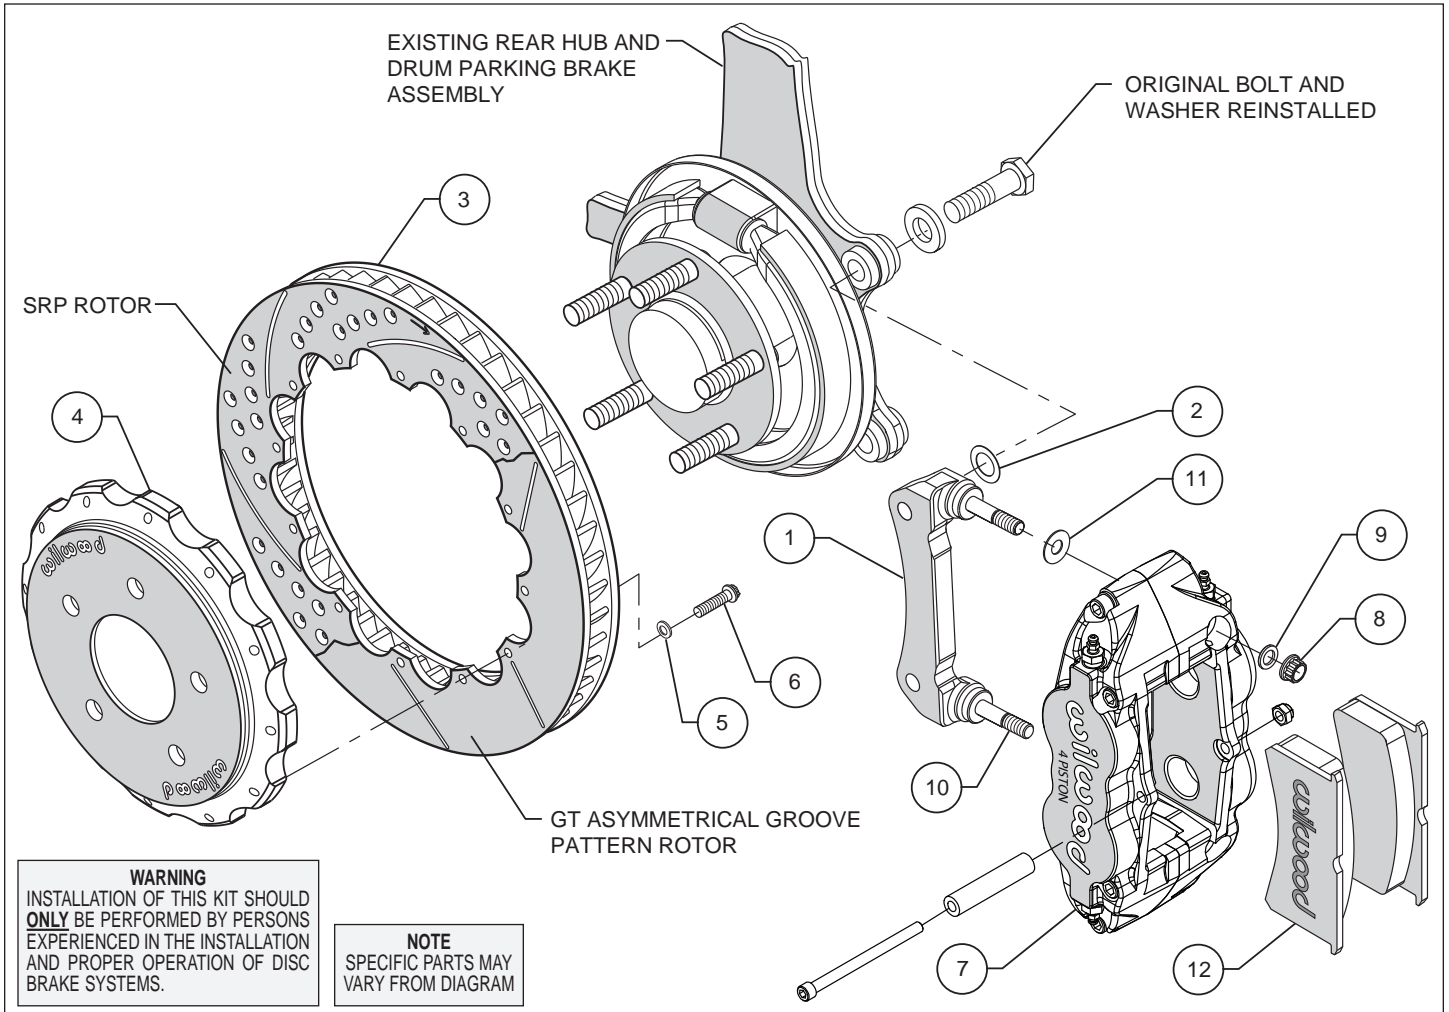
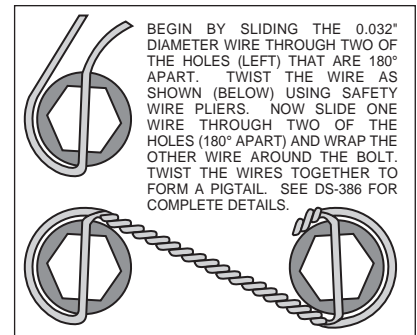

Figure 1. Typical Installation Configuration
Figure 3. Safety Wire Diagram
- Assemble the rotor (3) to the hat (4) with the bolts (6) and washers (5) as indicated in the configuration pictured in Figure 1. Using an alternating sequence, apply red *Loctite*® 271 to the threads and torque bolts to 155 in-lb. For an added measure of security, the bolts may be safety wired using standard 0.032 inch diameter stainless steel safety wire as shown in Figure 3. Please refer to Wilwood's data sheet DS-386 for complete safety wire installation instructions.